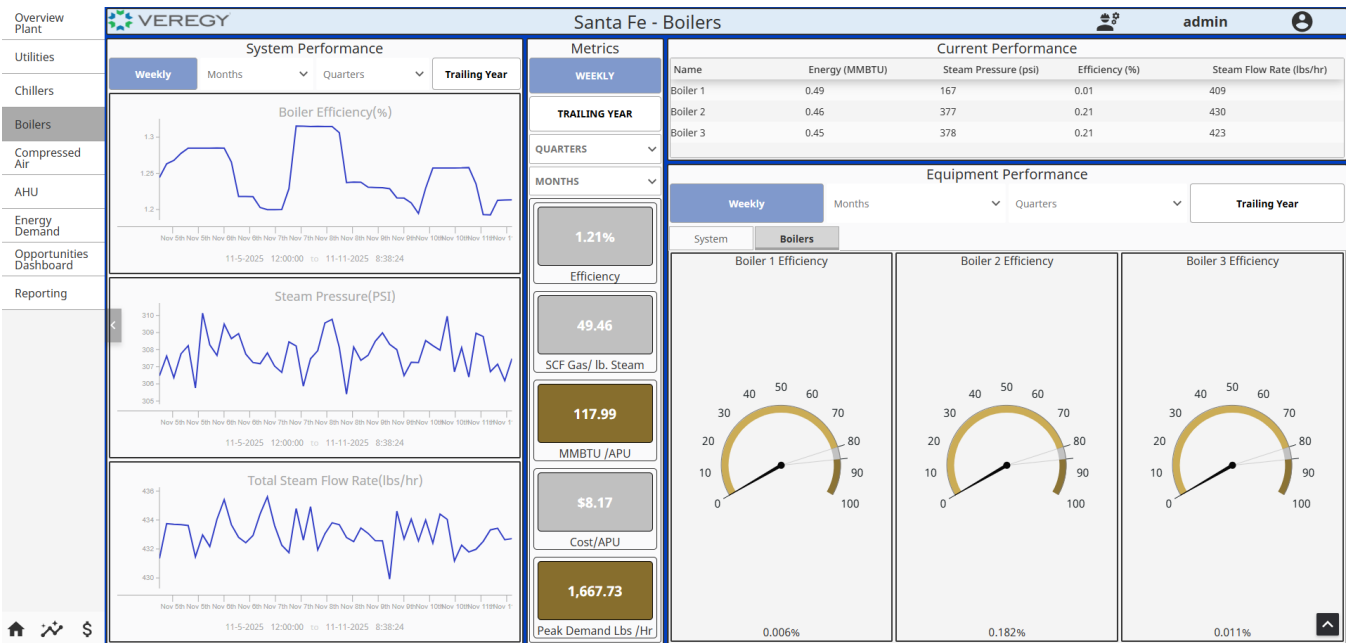

FIGURE 8: BOILER DASHBOARD W/ GAUGES
- Boilers Tab - Gauge View (Figure 8):